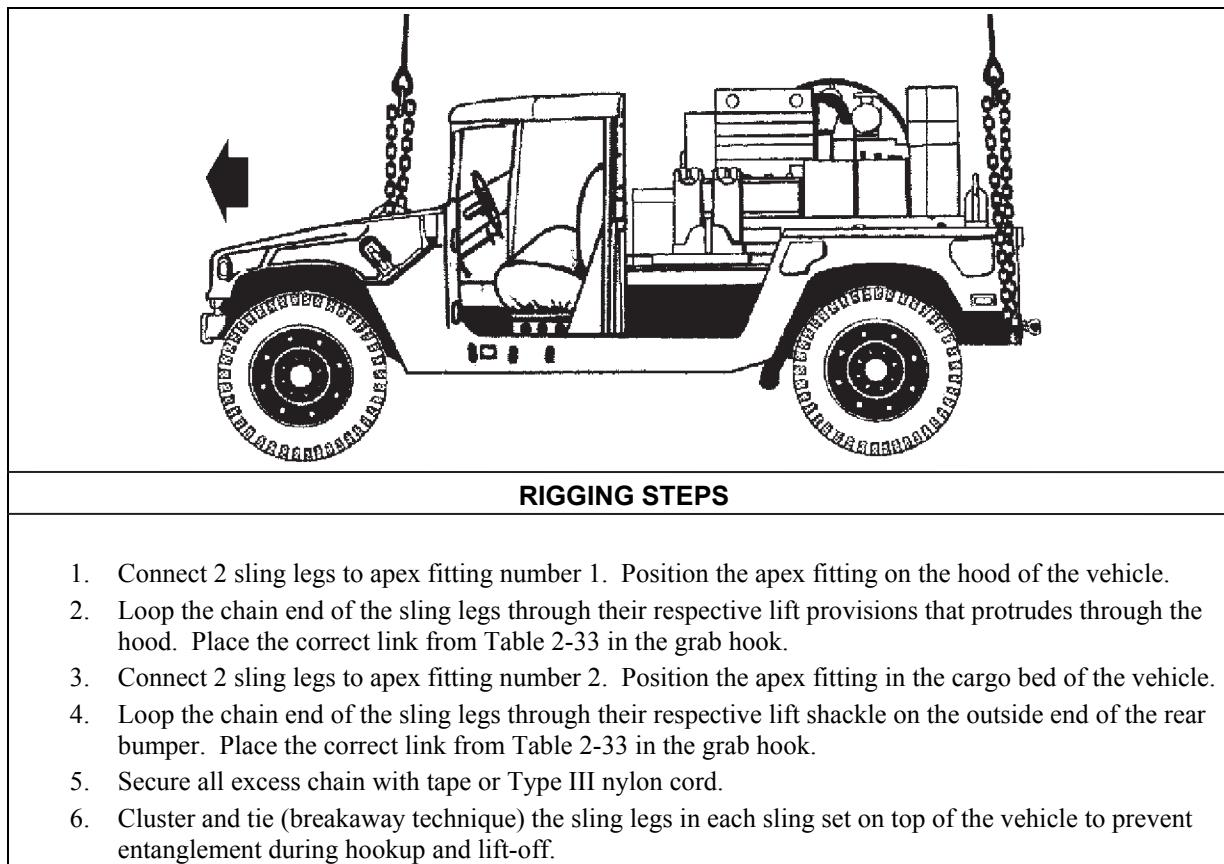

Figure 2-32. M1037 with AN/TPQ-36 Firefinder Generator Pallet
- **Rigging.** Rig the load according to the steps in Figure 2-32.